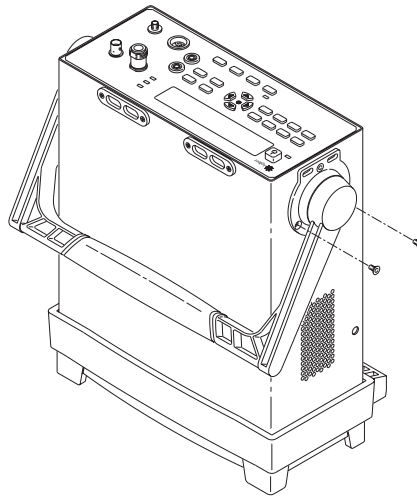

Figure 3-2. Removing the Handle
- 3 Position the handle so that it is against the top surface of the shroud (see Figure 3-2).